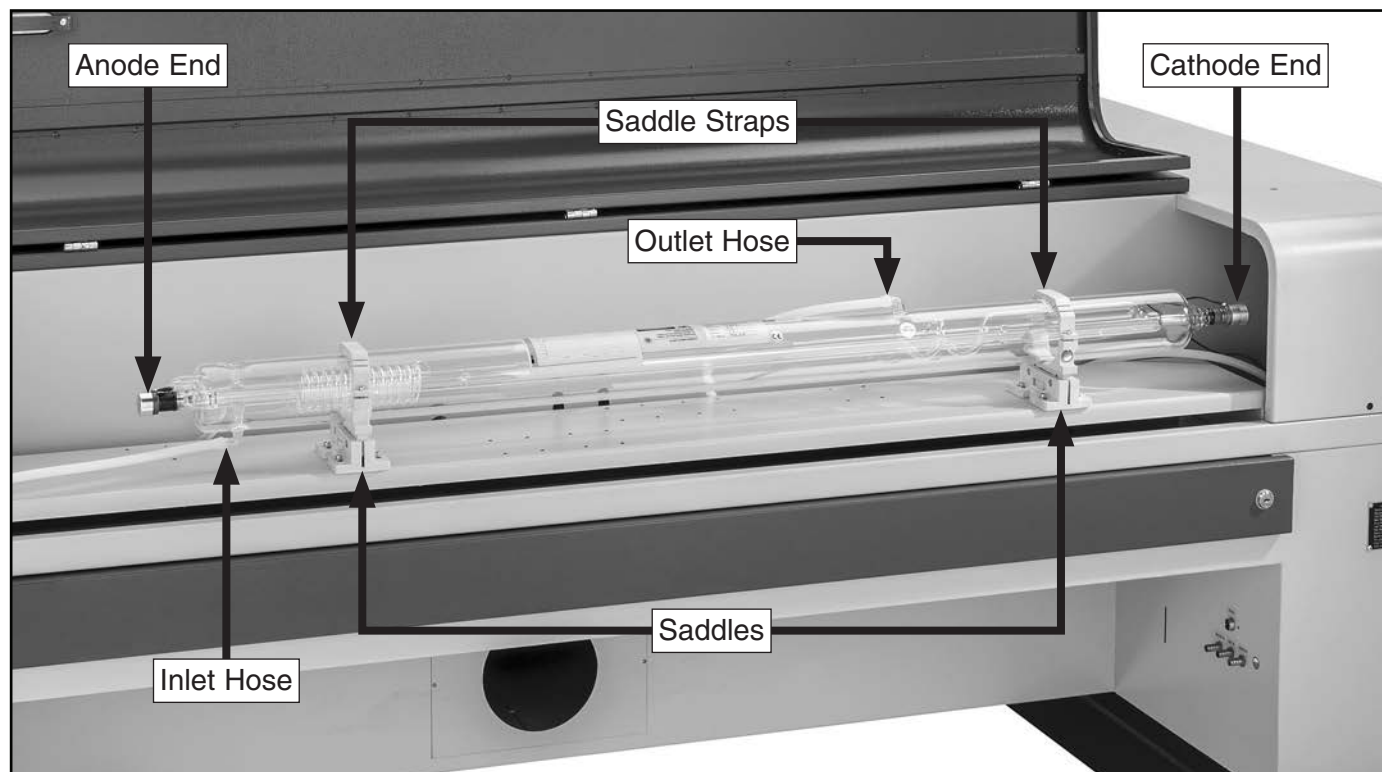

Figure 98. Laser tube compartment identification.
1. Inspect laser tube saddles and rubber pads for any debris or foreign material, and clean as required (see **Figure 98**).
4. Carefully remove laser tube from shipping container, and position anode-end on anode side of tube compartment (see **Figure 98**).
6. Position cathode-end of laser tube so there is a gap of approximately 6" between end and center of first mirror (see **Figure 98**).